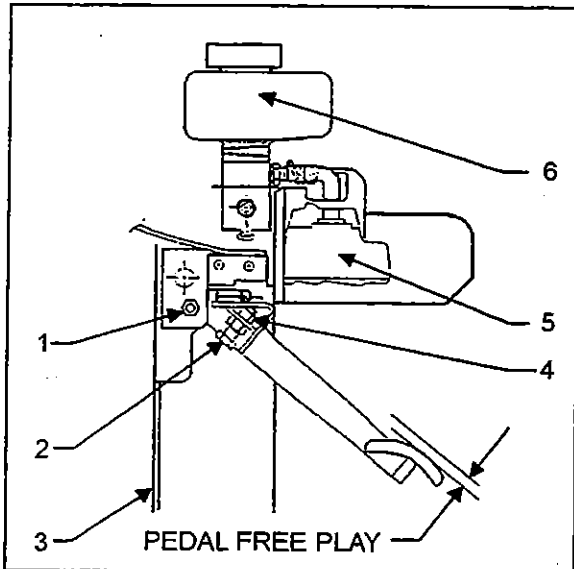

Figure 1: Free Play Adjustment OE43B716
1. Free play adjustment is made by loosening nut (1, Fig. 1) and moving bolt in slot. The pedal moves down allowing a 1/4" (6 mm) of free play before the master cylinder (5, Fig. 1) starts to move.
2. Keep this adjustment by tightening nut (1, Fig. 1).
4. Loosen the adjustment bolt (2, Fig. 1) until it touches the pedal wall support (3, Fig. 1).
5. Loosen the adjustment bolt (2, Fig. 1) for another 1-1/2 turn. Lock in position by tightening nut (4, Fig. 1).